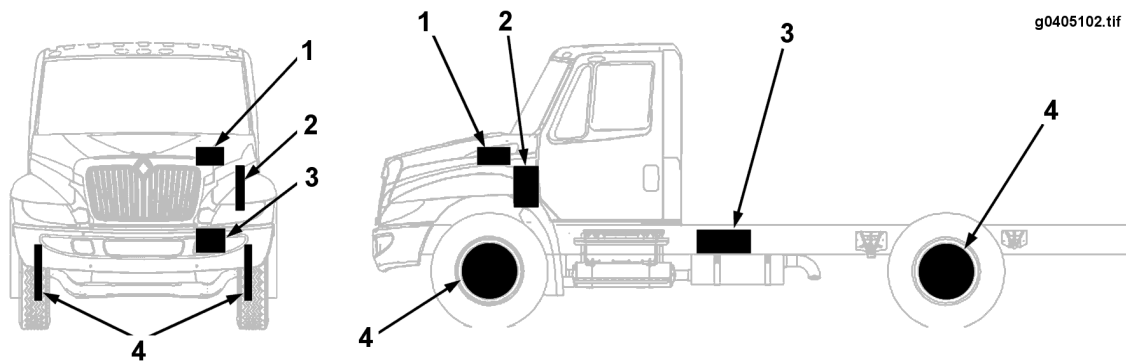
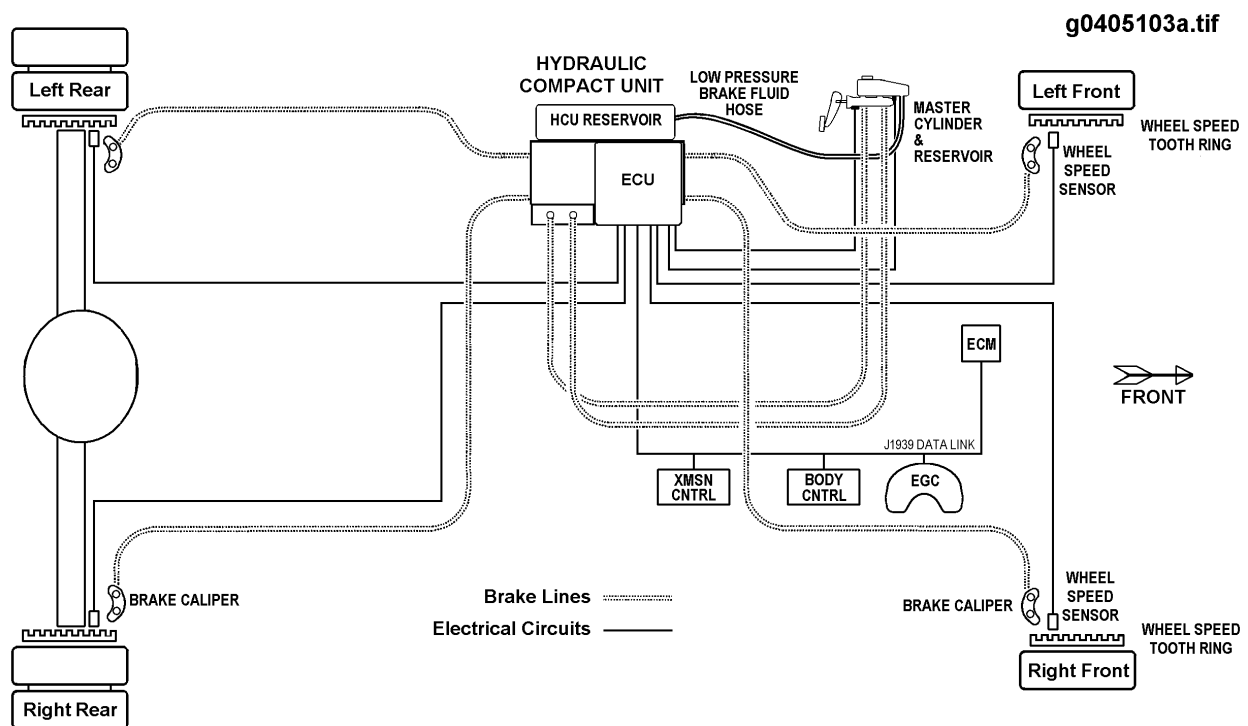

Figure 2 Full Power Brakes System Component Layout
Figure 3 Schematic Diagram of the Full Power Brakes System
A component location diagram of a typical Full Power Brakes system is illustrated in FIGURE 2. A schematic diagram of the system is provided in FIGURE 3. The Master Cylinder is mounted to the engine side of the cowl, in front of the driver. The wheel speed sensors are located at the wheel ends with the calipers and rotors. The Body Controller (BC) is mounted to the inside of the cowl, near the driver side kick panel. The Hydraulic Compact Unit (HCU) is mounted on the inside of the left frame rail, behind the rear cab crossmember.